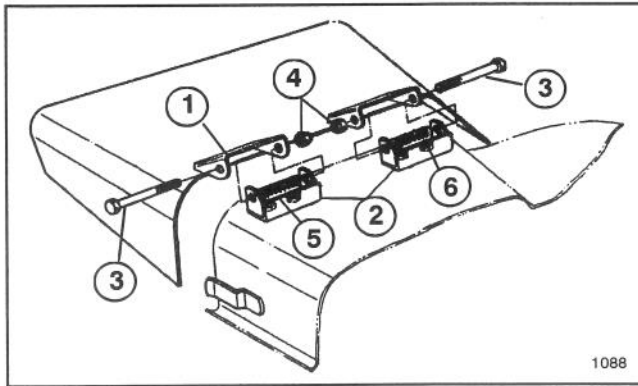

Figure 18
1. Remove bolts, lock nuts and springs securing deflector mounts to pivot bracket (Fig. 18).
2. To remove pivot brackets, remove carriage bolts and nuts (Fig. 18).